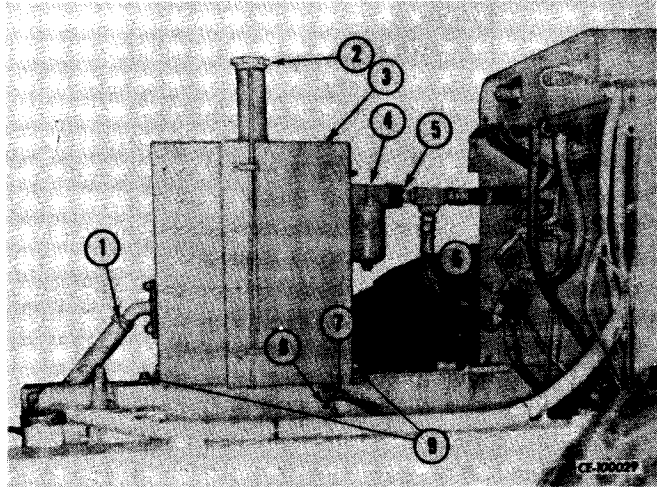

Figure 11-7
Disconnect the return line from the filter housing (4, Fig. 11-7) by removing allen head cap screws (5).
Clean screen (8, Fig. 11-7) thoroughly.
With the aid of an overhead hoist, position hydraulic reservoir on the frame, install and tighten cap screws, lock washers and nuts (9, Fig. 11-7).